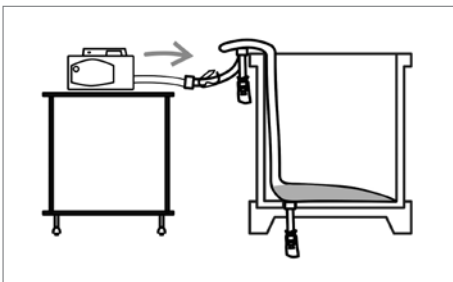
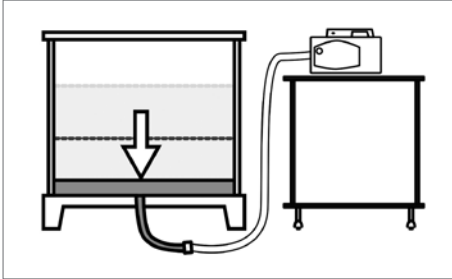

Fig. 16
Fig. 21
4. Start to fill the Flexsafe® 3D Bag – Sartorius Stedim Biotech recommends the use of peristaltic pumps for filling and dispensing from the bag (see Fig. 16).
2. Open any clamps (see Fig. 16) on the draining line. Drain the bag – Gravity can be used, but for faster draining Sartorius Stedim Biotech recommends the use of a peristaltic pump (see Fig. 21)